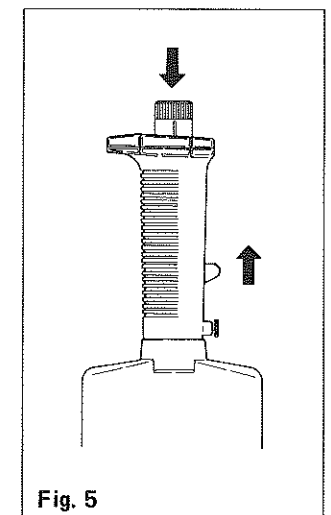

Fig. 5
4. Place the nozzle tips of the syringes into the liquid to be dispensed. Push the piston lever up until it stops so that the syringes are filled with the liquid. (Fig. 5)